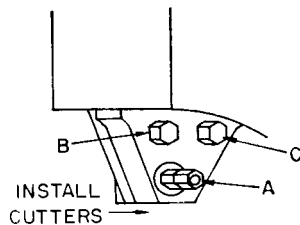

Fig. 325. Cutters.
7. Remove the movable cutter attaching nuts, A, Figure 325.
2. Remove the bolts, *B* and *C*, Figure 325.
8. Replace bolts *B* and *C*, Figure 325, but do not tighten them.